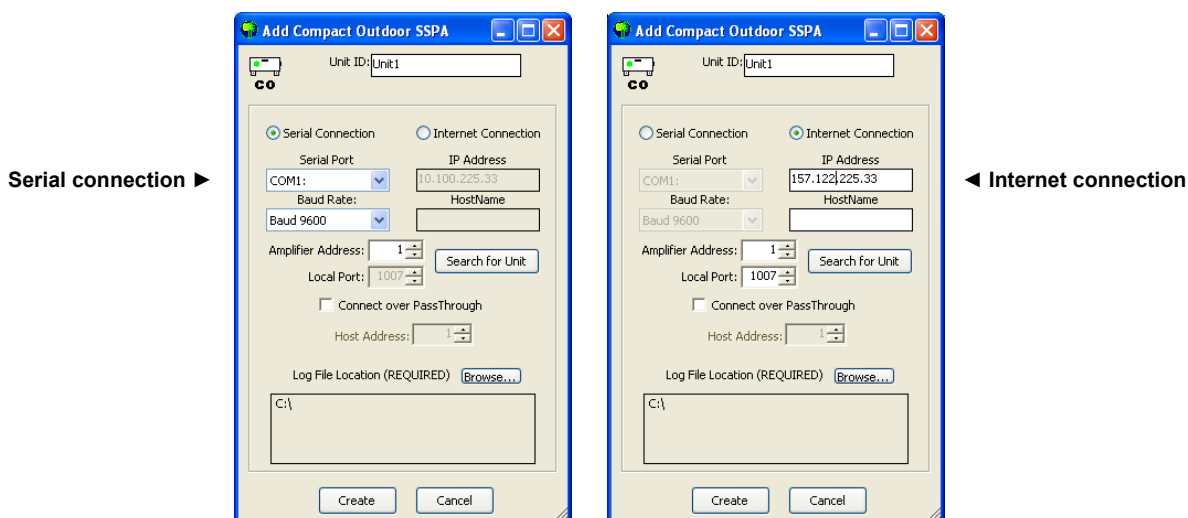

Figure 3-2: Add Compact Outdoor SSPA window, via Serial (left) or Internet (right)
- A new dialog window will open (see Figure 3-2). Enter the following information where applicable: Unit ID, Serial Port for communication, Baud Rate. Only serial connections are available with a standalone Compact Outdoor SSPA. The addition of a Remote Control unit (RCP2-1000-CO) allows connection via Internet Protocol.